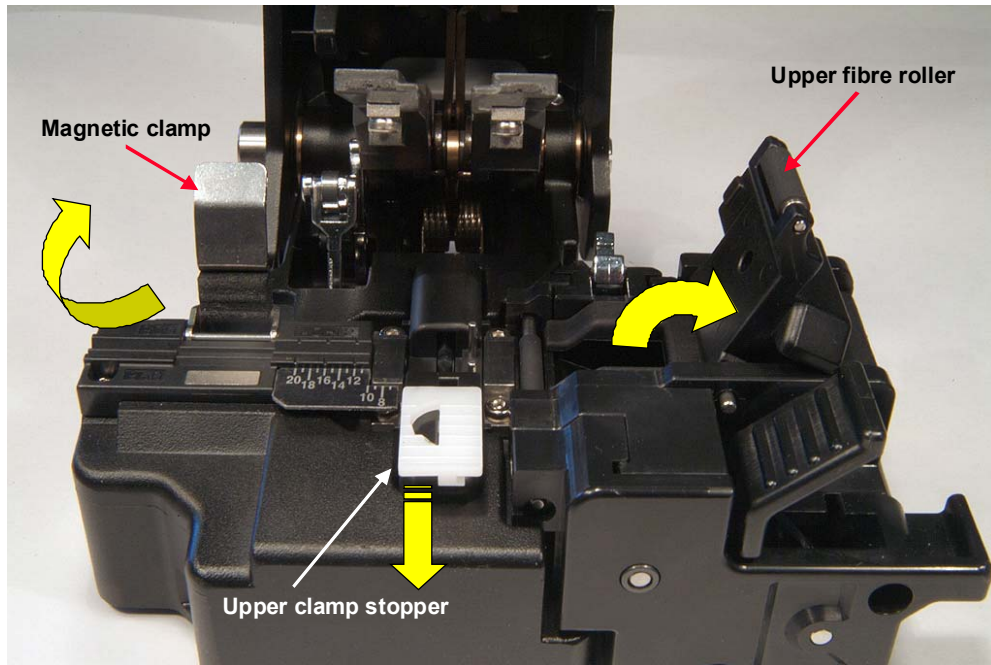

Figure 4.15 – Preparing the CT20-12 cleaver to accept the fibre
9. Slide the white upper clamp stopper forward in the direction of the arrow as shown in figure 4.15.